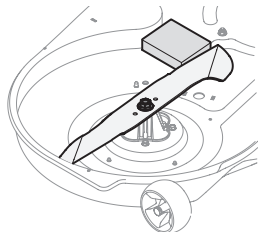

Figure 32
- Place a block of wood between the center deck housing baffle and the cutting blade to act as a stabilizer. See Figure 32.
- Remove the hex flange nut that secures the blade to the spindle assembly. See Figure 32.
- Place a block of wood between the deck housing baffle and the cutting blade to act as a stabilizer. See Figure 32.